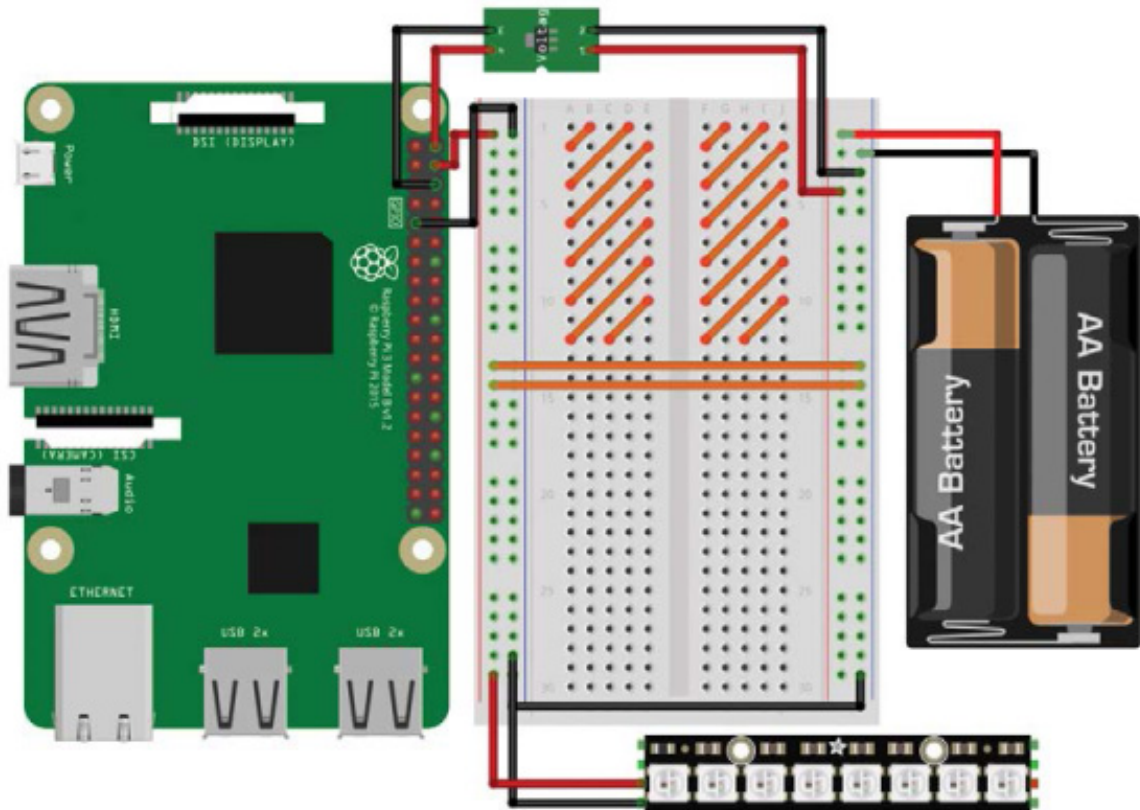

FIGURE 6-6 Adafruit NeoPixel Stick connected to +5 V and ground
2. Next, use another jumper wire to attach one of the GND pins of your Stick to the common ground rail of your breadboard. This grounds your NeoPixels to both the power supply (your batteries) and the Raspberry Pi. Check out Figure 6-6 for a diagram of what your setup should look like so far.